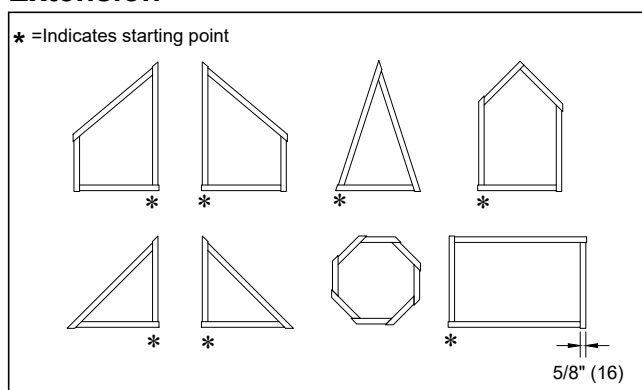

Figure 1
1. For jamb extension that is not pre-cut, cut each jamb extension 5/8" (16) shorter than the outside measurement of the frame. See figure 1.
2. Start at the corner indicated in figure 1 and press the jamb extension into place around the perimeter of the unit.